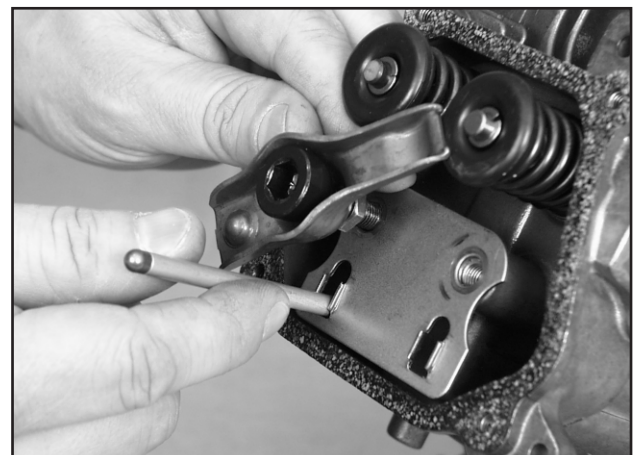

Figure 9.15 — Install Push Rods
7. Rotate the rocker arm as shown in Figure 9.15 to install the push rod. Insert the push rod through the push rod guide plate, with either end resting against the tappet. Place the rocker arm over the push rod. Alignment is correct when push rod ball rests in the rocker arm socket.